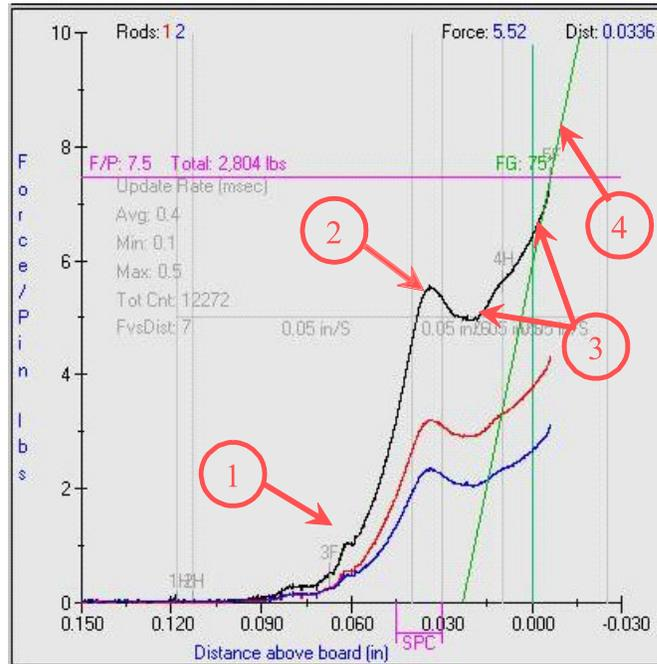

Figure A-10. Typical Force vs. Distance Curve of MEP-12T press for XCede HD, XCede HD PLUS & XCede HD2 connectors.
The MEP-12T press produces a Force vs. Distance curve during a pressing sequence similar to the one shown in Figure A-10. The main areas of the curve are: the initial compression of the XCede HD, XCede HD PLUS & XCede HD2 compliant pin and compliance of the PWB hole (1), the full collapse of the XCede HD, XCede HD PLUS & XCede HD2 compliant pin (2), the sliding of the compliant pin in the PWB hole (3), and the termination force of the pressing sequence at the 75 Degree Force Gradient line (4). The following descriptions of these areas as for reference and are intended as an aid in understanding the pressing characteristics of the XCede HD, XCede HD PLUS & XCede HD2 connector utilizing the *ATCS_STD_FG_DWELL.prf* profile.